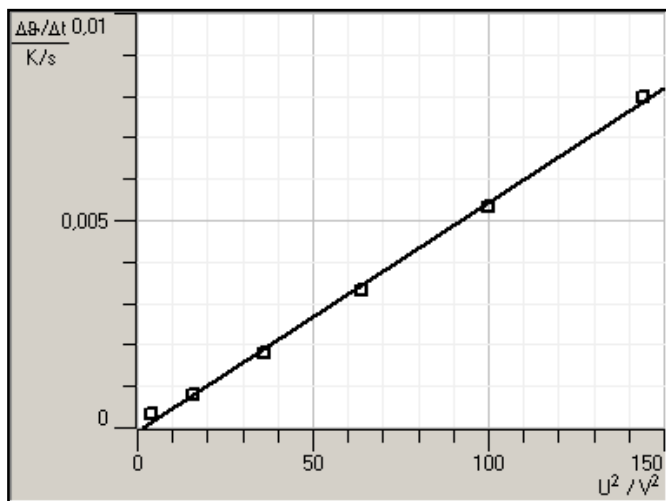

Fig. 2: Plot of $\Delta\vartheta / \Delta t$ against U^2
- Connect the heating filament of the immersion in series to the adjustable AC voltage output of the variable low-voltage transformer (see Abb. 2). Use the LD analog 30 multimeter as an ammeter.